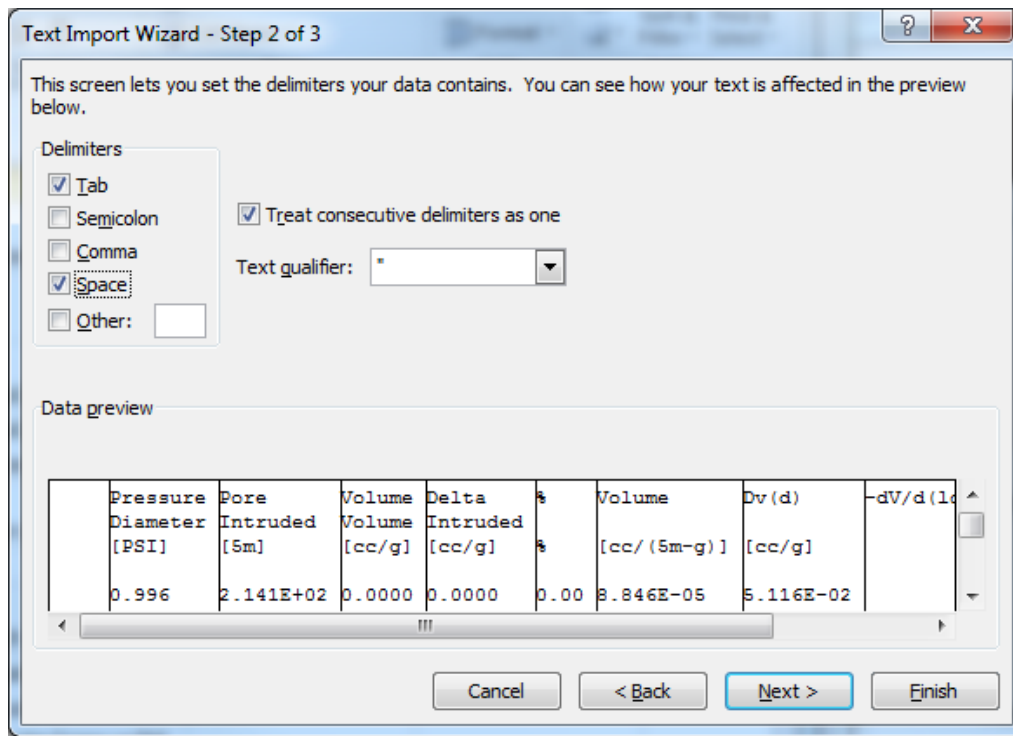

Figure 40. Text import wizard step 2 dialog box
- For “character” column delimiters, select **Tab, Space,** and **Treat consecutive delimiters as one** (Figure 40). Make sure the lines are separating the data into appropriate columns.